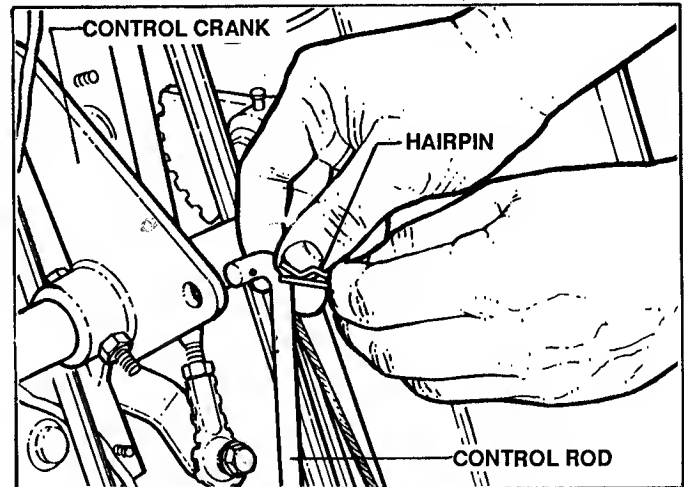

FIGURE 34
7. Remove hairpin from front of CONTROL ROD then lower CONTROL ROD. See Figure 34.